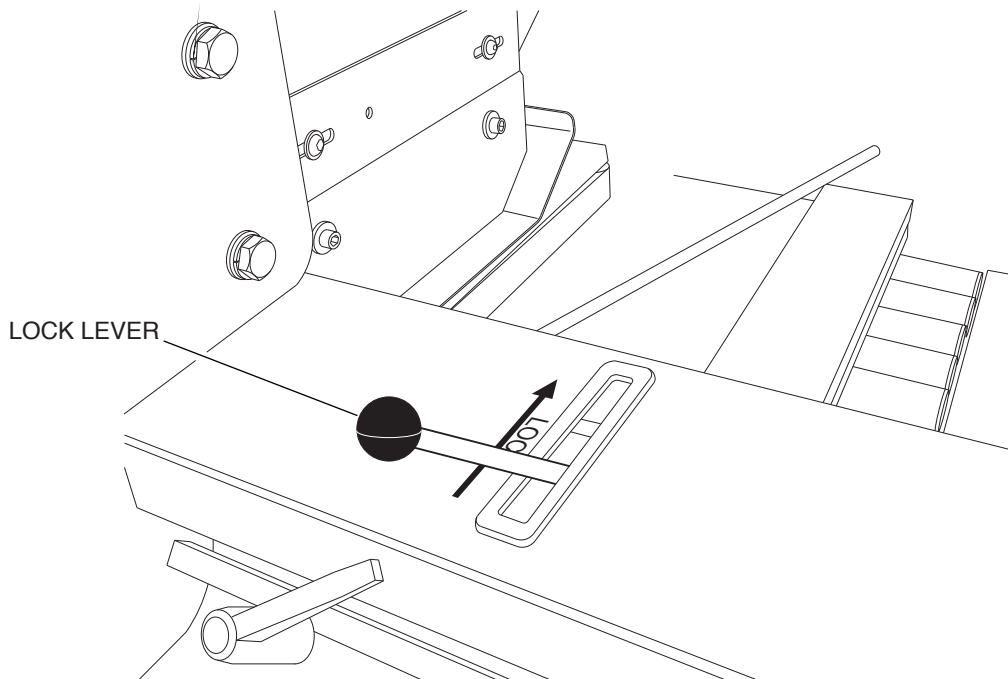

Figure 10
- 2. Unlock the bridge using the bridge lock lever (figure 10).**
- 7. Lock the bridge using the bridge lock lever (figure 10). Make sure to hold the bridge down while locking it.**